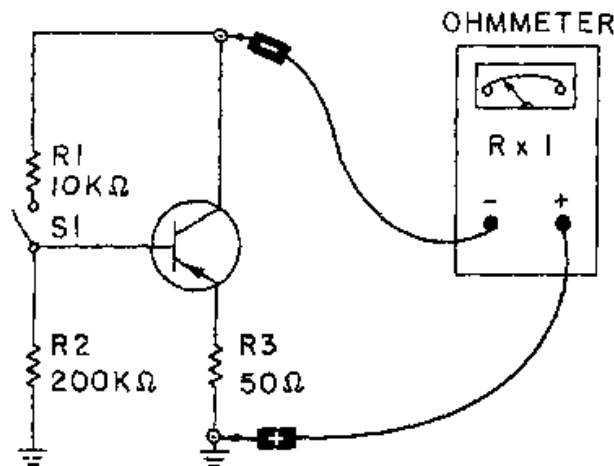

Figure 2-18.—Testing a transistor's gain with an ohmmeter.
**TRANSISTOR GAIN TEST.**—A basic transistor gain test can be made using an ohmmeter and a simple test circuit. The test circuit can be made with just a couple of resistors and a switch, as shown in figure 2-18. The principle behind the test lies in the fact that little or no current will flow in a transistor between emitter and collector until the emitter-base junction is forward biased. The only precaution you should observe is with the ohmmeter. Any internal battery may be used in the meter provided that it does not exceed the maximum collector-emitter breakdown voltage.
With the switch in figure 2-18 in the open position as shown, no voltage is applied to the PNP transistor's base, and the emitter-base junction is not forward biased. Therefore, the ohmmeter should read a high resistance, as indicated on the meter. When the switch is closed, the emitter-base circuit is forward biased by the voltage across R1 and R2. Current now flows in the emitter-collector circuit, which causes a lower resistance reading on the ohmmeter. A 10-to-1 resistance ratio in this test between meter readings indicates a normal gain for an audio-frequency transistor.